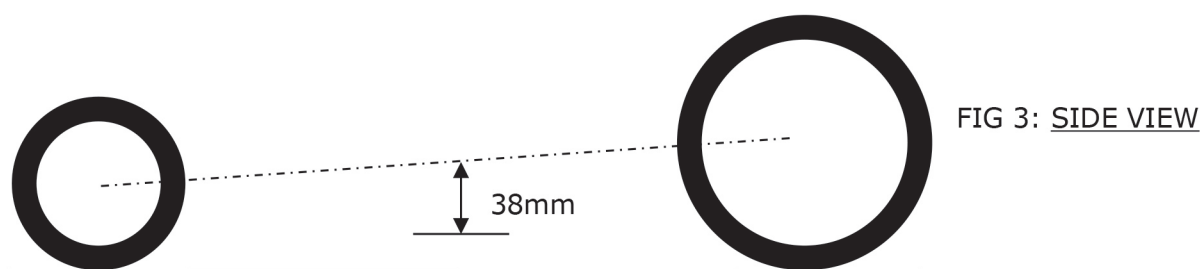

FIG 3: SIDE VIEW
1. Mowers MAY be modified to lower the position of the driver's feet. The lowest position of your feet is 38mm (1.5 inches) below the centre line of a line projected through the front and rear axles (see fig 3 below).